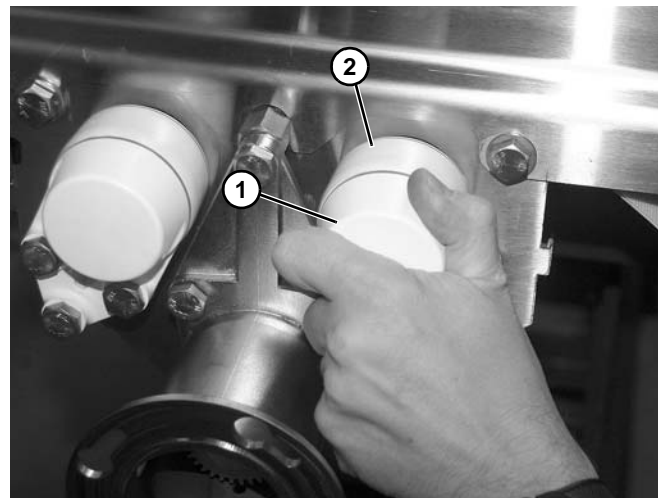

Figure 175
4. Remove bearing cap (Figure 175, item 1) on each roller bearing housing (Figure 175, item 2).